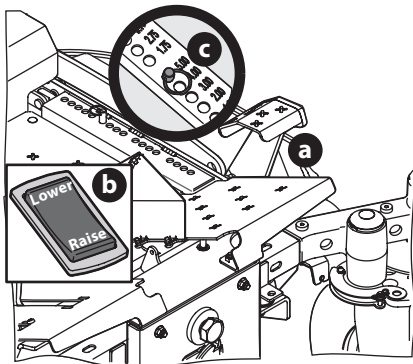

Figure 30
1. Use the deck lift pedal (a) or push down on the back of the electric deck lift switch (b) to raise the deck to its highest position, place the clevis pin (c) attached to the mower into the desired index hole on the deck height index, then slowly release the deck lift pedal (a) or slowly lower the deck by pressing down on the front of the electric deck lift switch (b) (Figure 30).